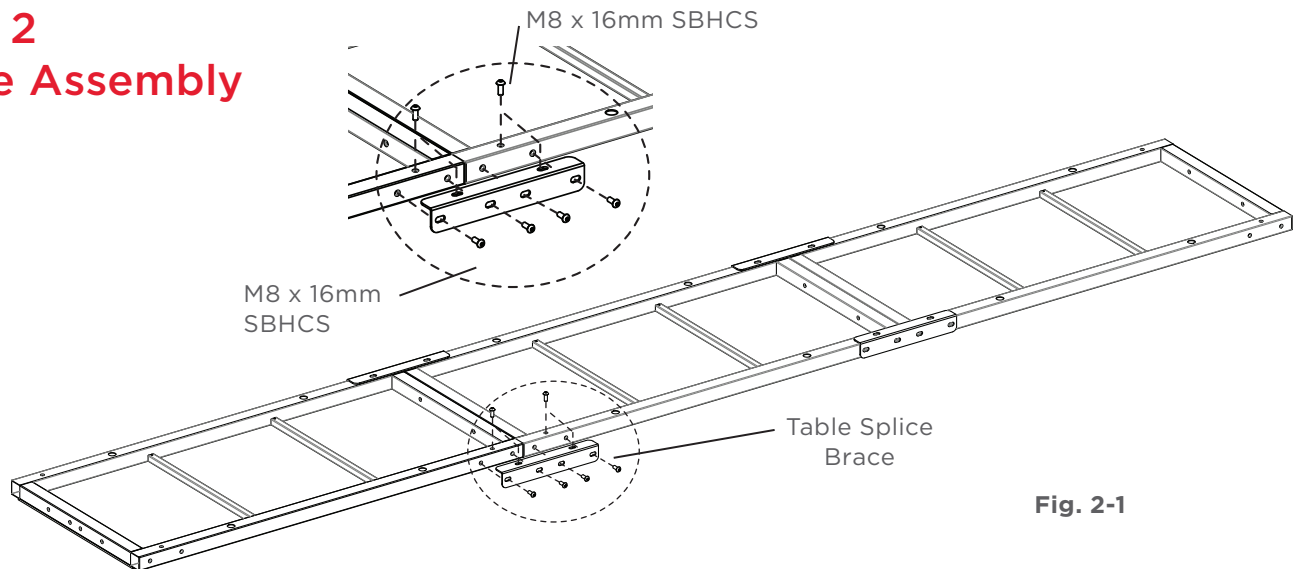

Fig. 2-1
2-2: 12 foot: Start with Two 4-foot table sections upside-down on the floor end to end (as shown in Fig. 2-1). Join the sections together by placing a table splice brace onto the sections, lining up the holes in the brace with those in the sections. Make sure the flange portion of the brace is on top (as shown).
2-4: Finger-tighten two (2) SBHCS through the top of each table splice brace (as shown). (Fig. 2-1)